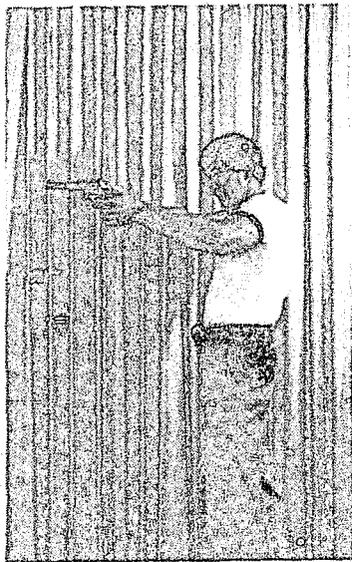

Figure 4-1
7. Malfunction procedure: (See Figures 4-1 and 4-2)